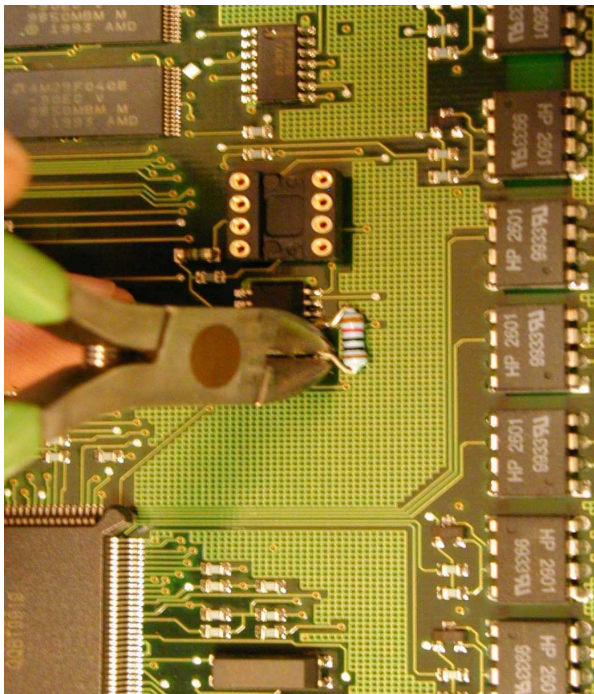
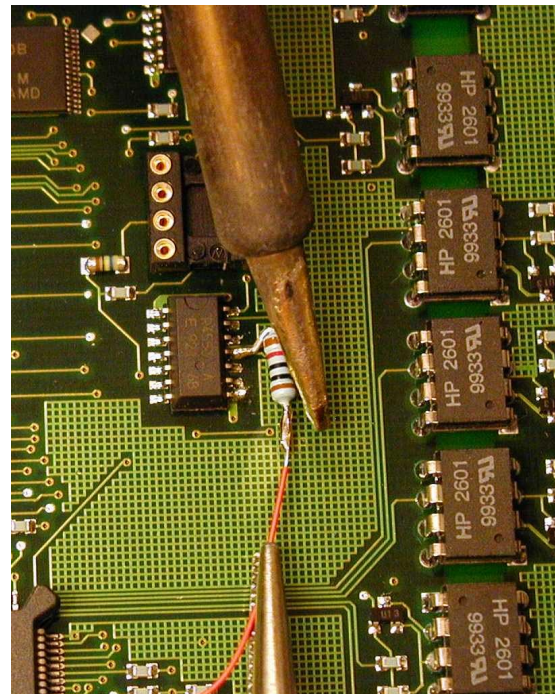

Figure 3- Cutting the Resistor
Figure 4- Soldering Buss Wire to Resistor
5. Using side cutters, cut the resistor leg from PIN 8 of the IC as close as possible to the IC (see **Figure 3**). Using the needle nose pliers, bend the resistor leg away from the IC so it is straight (see **Figure 4**).
6. Briefly heat the unsoldered end of the resistor and attach one end of the buss wire. Take care to limit soldering so that the buss wire insulation does not melt and the soldered leg of the resistor does not become detached. (See Figure 4)